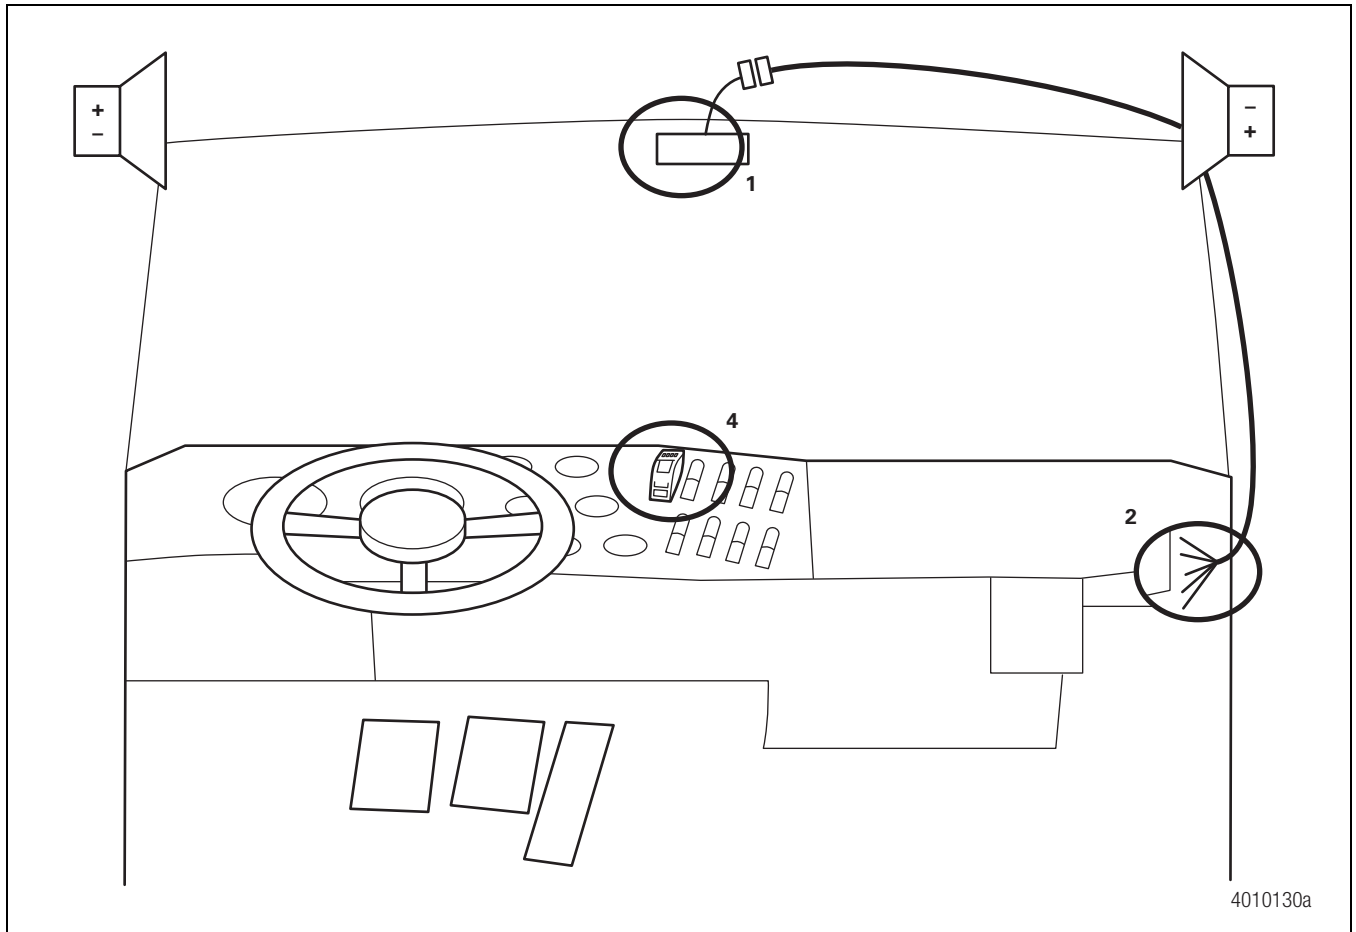

Figure 3.11
2. Route the camera harness up the A-pillar and along the vehicle headliner as shown Figure 3.11. Make sure that enough harness is present to allow connect/disconnect of the camera connector without stressing the harness or the connector.